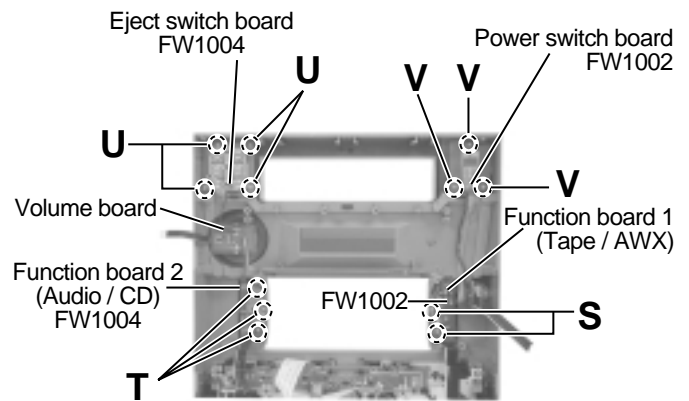

Fig.31
■Removing each board in the front panel assembly (See Fig.31 to 33)
~Function board 1~ (Fig.31 and 33)
~Function board 2~ (Fig.31)
~Volume board~ (Fig.31 and 32)
~Power switch board~ (Fig.31 and 33)